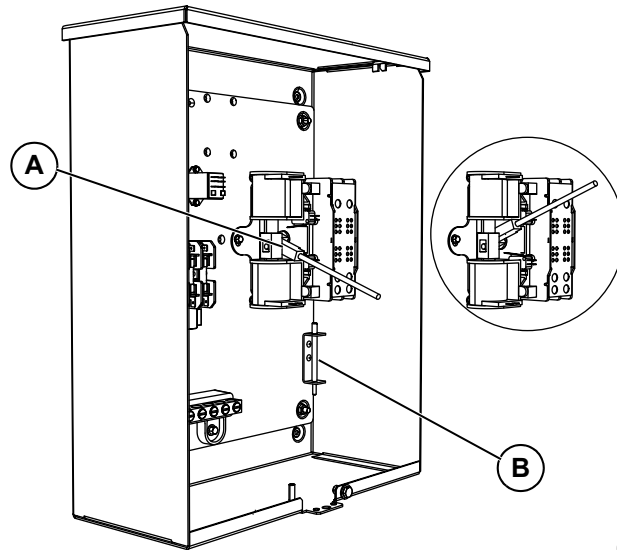

Figure 3-5: Open Side Compartment
A manual handle is shipped with the transfer switch. See 1 in Figure 3-5. Manual operation must be checked BEFORE the transfer switch is operated electrically. To check manual operation, proceed as follows:
Before proceeding, verify the position of the switch by observing the position of manual operation handle in Figure 3-5. If the handle is UP, the contacts are closed in the NORMAL (UTILITY) position, no further action is required. If the handle is DOWN, proceed with Step 1.
1. With the handle inserted into the movable contact carrier arm (see A in Figure 3-5), move handle UP. Be sure to hold on to the handle as it will move quickly after the center of travel.
2. Remove manual operating handle from movable contact carrier arm. Return handle to storage bracket (see B in Figure 3-5).
Before proceeding, verify the position of the switch by observing the position of the manual operation handle in Figure 3-5. If the handle is DOWN, the contacts are closed in the GENERATOR (STANDBY) position. No further action is required. If the handle is UP, proceed with Step 1.